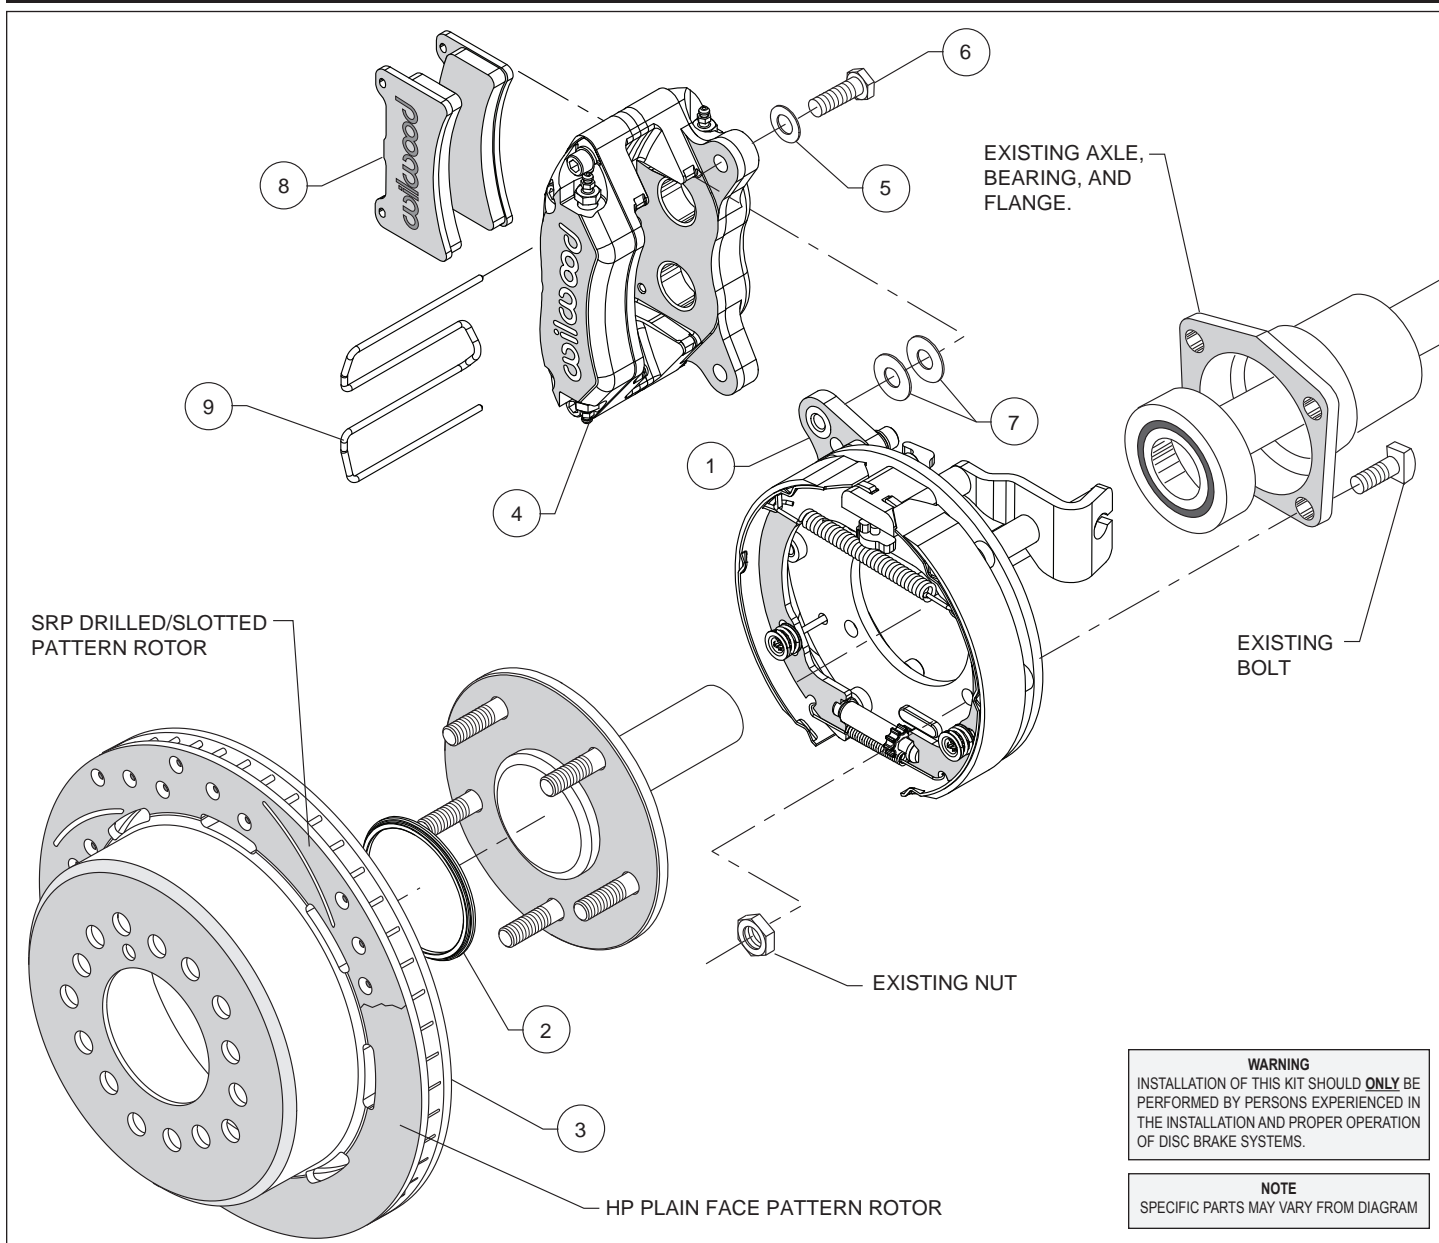
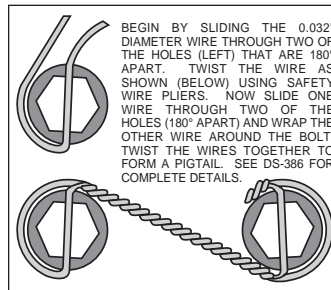
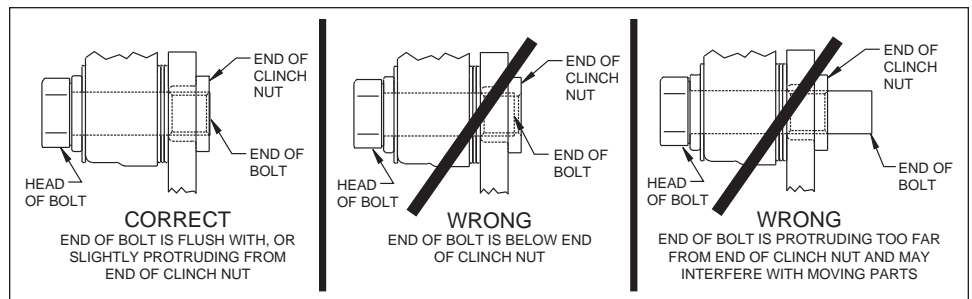

Figure 1. Typical Installation Configuration
Figure 4. Safety Wire Diagram
Figure 5. Clinch Nut Engagement Diagram
Assembly Instructions (numbers in parenthesis refer to the parts list, and Figure 1 on the preceding pages): **CAUTION:** All mounting bolts must fully engage clinch nuts. Be sure to check that all bolts are either flush or protruding through flanged side of clinch nut after shimming, Figure 5.
- Orient the bracket assembly (1), as shown in Figure 1, and mount to the axle housing flange using the Original Equipment Manufacturer (OEM) bolts and nuts, Figure 1. Ensure that the bracket assembly backing plate fits flush against the axle housing flange. Apply red *Loctite*® 271 to the OEM bolt threads and torque to OEM specifications.
- Slide the rotor registration adapter (2) onto the axle register on the axle flange with the smaller O.D. facing toward the rotor/hat (3), Photo 1. Align the correct hole pattern in the rotor/hat with the stud pattern on the axle flange and slide into place, Figure 1 and Photo 2. **NOTE:** The rotor/hat must fit flush against the axle flange or excessive rotor run out may result. Install three lug nuts (finger tight) to keep the rotor/hat assembly in place while continuing with the installation. **NOTE:** Some OEM and after market axles come with stud sizes larger than 0.50" diameter. Verify stud size and have a qualified machine shop drill the bolt circle of the hat/rotor to the correct stud size, if necessary.
•**NOTE:** Please reference the caution statement at the beginning of the assembly instructions. Mount the caliper (4) onto the caliper mounting bracket (1) using bolts (6) and washers (5), as shown in Figure 1. Initially place two .035" thick shims (7) on each bolt between the caliper and the bracket, Photo 3. Temporarily tighten the mounting bolts and view the rotor (3) through the top opening of the caliper. The rotor should be centered in the caliper, Photo 4. If not, adjust by adding or subtracting shims between the bracket and the caliper. Always use the same amount of shims on each of the two mounting bolts. **NOTE:** The end of each bolt must be flush with or slightly protruding from the head of the clinch nut, as shown in Figure 5. If necessary place spare shims between washer (6) and caliper mounting ear to achieve the proper clinch nut engagement. Once the caliper alignment and clinch nut engagement are correct, remove the bolts one at a time, apply red *Loctite*® 271 to bolt threads, and torque to 40 ft-lb. Safety wire bolts using standard 0.032 inch diameter stainless steel safety wire as shown in Figure 4. Please refer to Wilwood's data sheet DS-386 (available at www.wilwood.com/Pdf/DataSheets/ds386.pdf) for complete safety wire installation instructions.